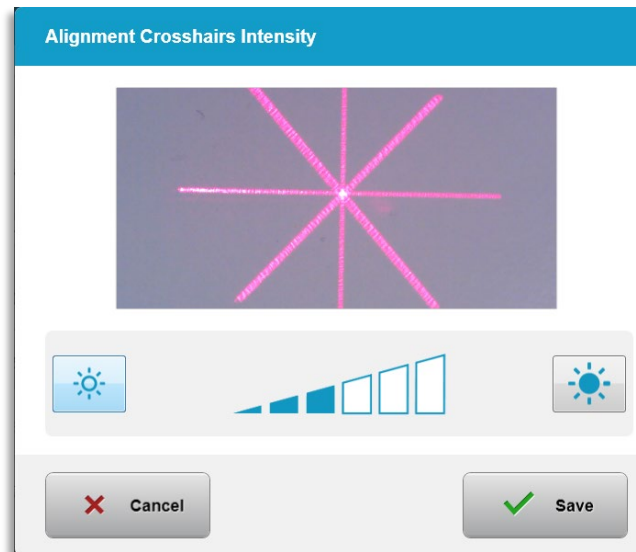

Figure 3-55. Alignment Crosshairs Intensity
- o Select "Alignment Crosshairs Intensity" from the System Settings menu to alter the brightness of the alignment crosshairs. The screen shown in Figure 3-55 will appear.